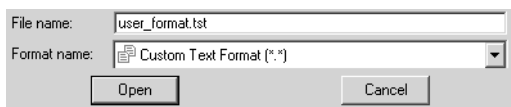

Figure 4-8. Custom Text Format
1. In the **Open** dialog box, select Custom Text Format in the *Format name* drop-down list and type a name for the file in the *File name* field (Figure 4-8). Click **Open**.